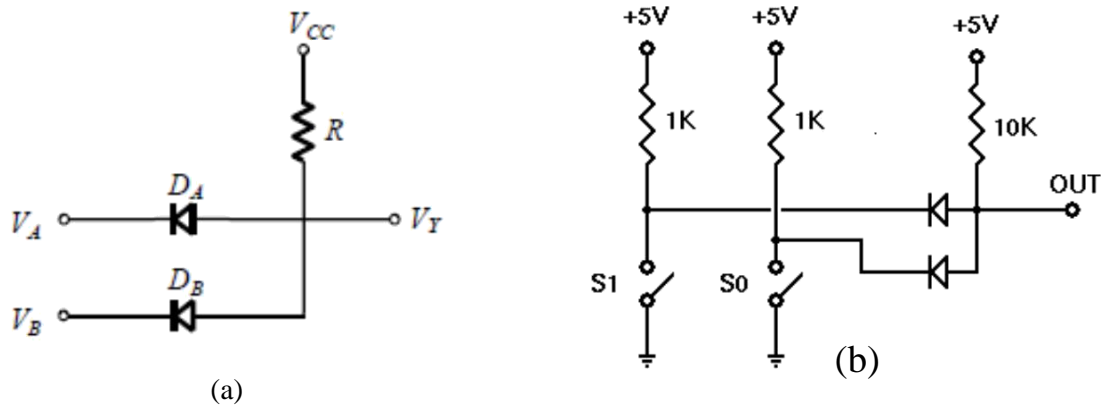

Fig.2 DL-AND Gate
2. We constructed the DL-AND gate on the breadboard as shown in Fig. 2. Then drew a Truth Table similar to the one provided and filled in your experimental results.